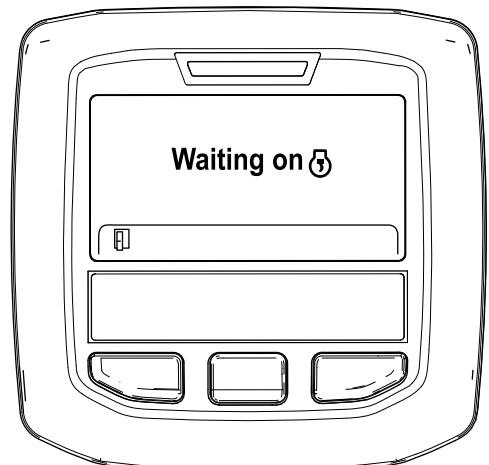

Figure 49
- B. The "Waiting on [engine icon]" message displays (Figure 49).